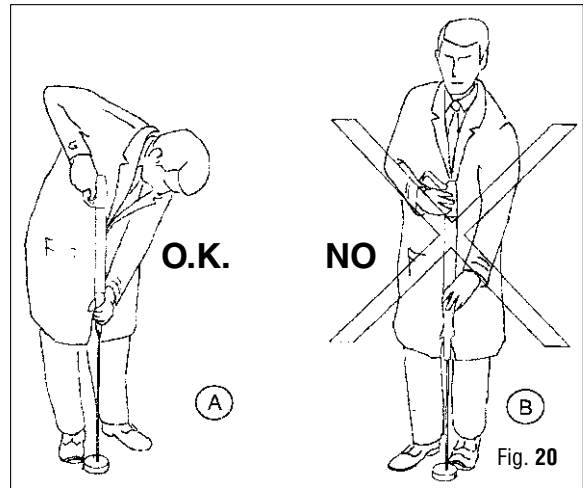

Fig. 20
FOR THE NECESSARY INSPECTION TO BE PERFORMED, THE SHAFT MUST BE INSERTED INTO THE SPEARGUN. FOR YOUR SAFETY, FASTEN THE SHAFT INTO A FLOOR BASE. WHEN THE SHAFT IS INSERTED, ALWAYS MAINTAIN PRESSURE ON THE SPEARGUN WITH BOTH HANDS AND KEEP THE HANDLE UNDER YOUR SHOULDER (FIG. 20-A), NEVER UNDER YOUR FACE (FIG. 20-B). DO NOT PERFORM ANY ADJUSTMENT OR LEAVE THE GUN UNATTENDED WHEN THE SHAFT IS INSERTED. FAILURE TO FASTEN THE SHAFT INTO A FLOOR BASE OR MAINTAIN PRESSURE ON THE SPEARGUN WITH BOTH HANDS AND KEEP THE HANDLE UNDER YOUR SHOULDER (FIG. 20-A) WHEN THE SHAFT IS INSERTED, COULD RESULT IN THE SPEAR SHAFT AND/OR SPEARGUN BEING PROPELLED UNCONTROL-LABLY, IF THE TRIGGER IS PULLED OR THE SPEARGUN FIRES UNEXPECTEDLY AND COULD RESULT IN SERIOUS INJURY OR DEATH.
1. Using a floor base, insert the shaft until the piston engages the catch hook (Fig. 20-A).
2. Using a floor base, insert the shaft until the piston engages the catch hook (Fig. 20-A).
5. Using a floor base, insert the shaft until the piston engages the catch hook (Fig. 20-A). The effort exerted by the speargun should be the same as it was 2 hours previous. A decrease in the effort would indicate a leak in the speargun. An increase in effort would indicate an internal leak past the power regulating block.